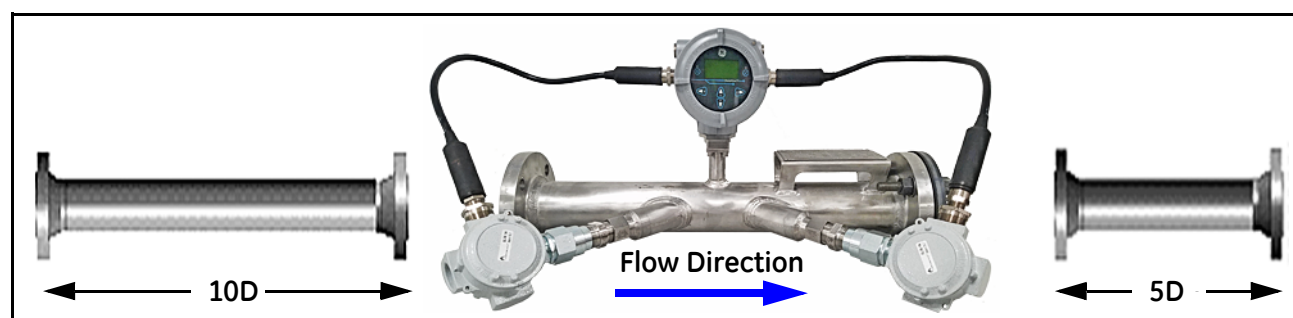

Figure 4: Minimum Straight Run Pipe Requirements
- Locate the flowcell so that there are at least 10 pipe diameters of straight, undisturbed flow upstream and 5 pipe diameters of straight, undisturbed flow downstream from the measurement point (see *Figure 4* below). Undisturbed flow means avoiding sources of turbulence in the fluid (e.g., valves, flanges, expansions, elbows, etc.), avoiding swirl, and avoiding cavitation.